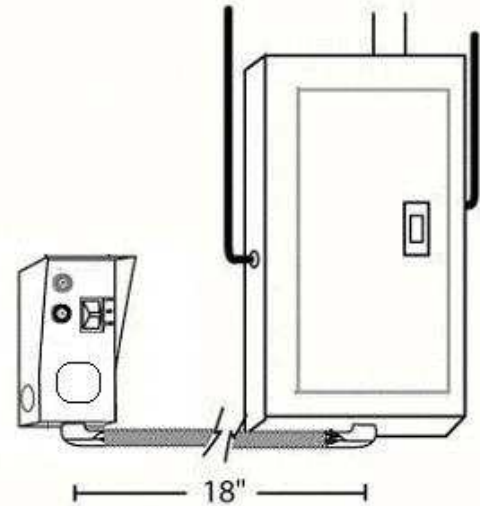

Figure 2
- B. Position the *Easy/Tran TF* in the desirable location. When mounting the suffix W model next to an electrical panel, position so that its bottom center is about 18 inches from the bottom center of your load center. The end of the flexible conduit whip should be lined up with a 1/2" knockout hole on the bottom of your load center (Figure 2).